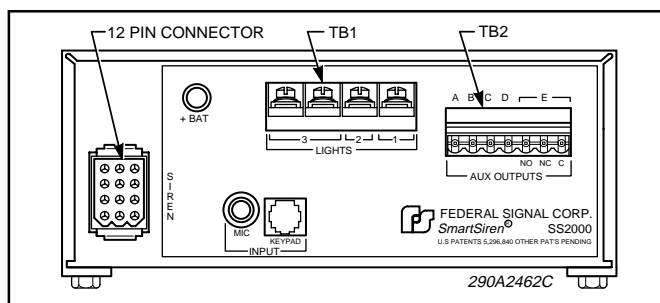

Figure 3-5. Rear View of SS2000SS.
The power cable included in the carton is equipped with a twelve-pin plug that mates with the connector on the rear of the Amplifier/Relay Unit (see figure 3-5). The cable is supplied with a 20-ampere in-line fuse. Additional wire (the same gauge or heavier) may be spliced to the leads as required. The various wires on the connector must be connected as follows:
5. See figures 3-5 and 3-10. Connect wires from the light bar or accessories to TB1-1 through TB1-3 or TB2-A through TB2-E as applicable. All wire connections for TB2 will be made with the right angle plug. (See face plate for relay designa-